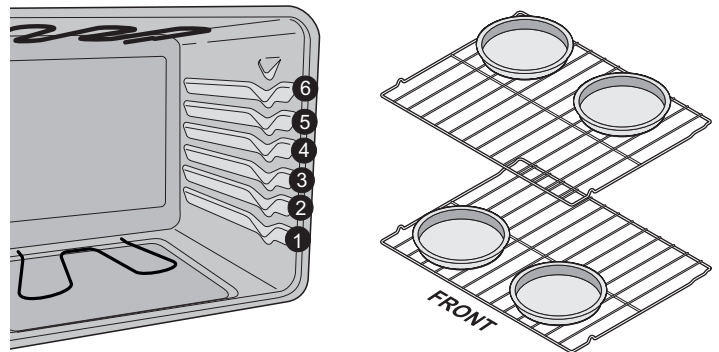

Figure 11: Pan positions for two-rack baking
- When baking using two oven racks, position cookware as shown in Figure 11.